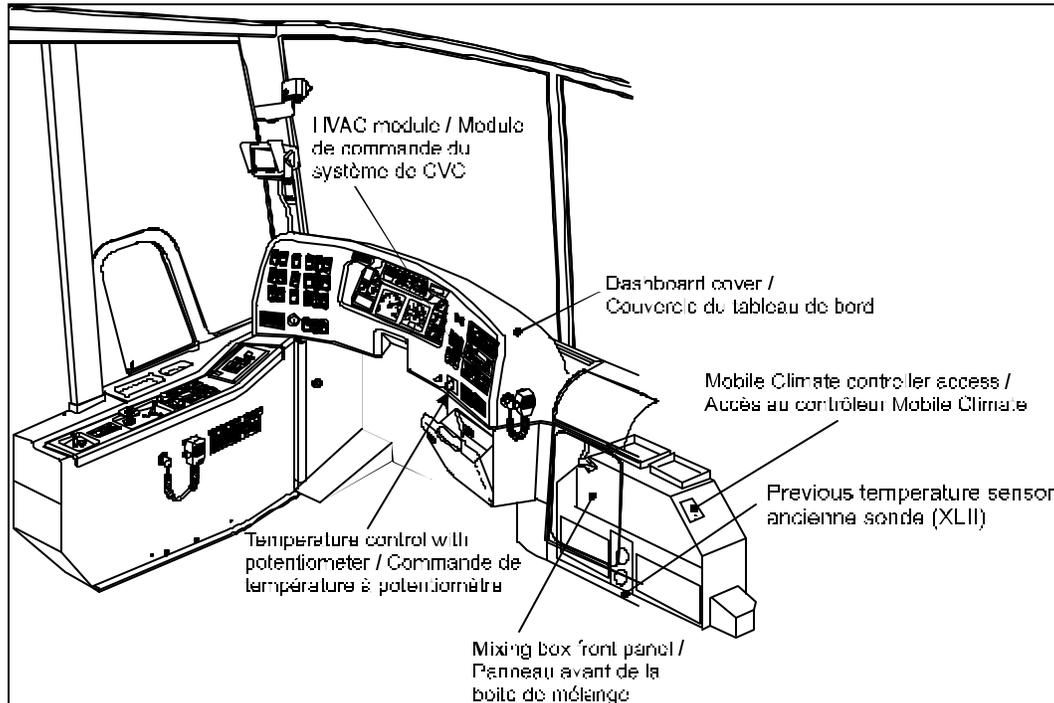

FIGURE 1
1. Remove the dashboard cover (figure 1).
2. Remove the access panel to the air mixing box (figure 1).
3. Remove the air mixing box front panel (figure 1).
12. For H3 series vehicle W2234 only and vehicles included between W2285 and X2904, replace Mobile Climate fan controller with the new Mobile Climate fan controller #871139. Refer to figure 1 for location of the Mobile Climate fan controller.
13. If the defrost temperature on your vehicle is adjusted with a potentiometer (see figure 1 for identification), go directly to part B.
1. Remove the access panel to the air mixing box (figure 1).
2. Remove the air mixing box front panel (figure 1).